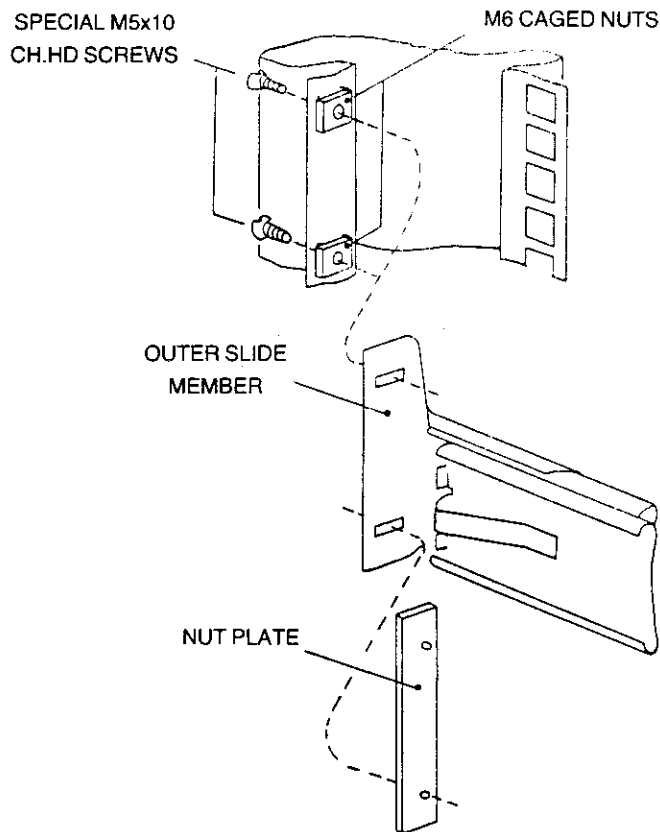

Fig. 2.8 Fitting the outer slide members into the rack
5. Fit the **Outer Slide Members** (two off) to the rack as shown in Fig. 2.8